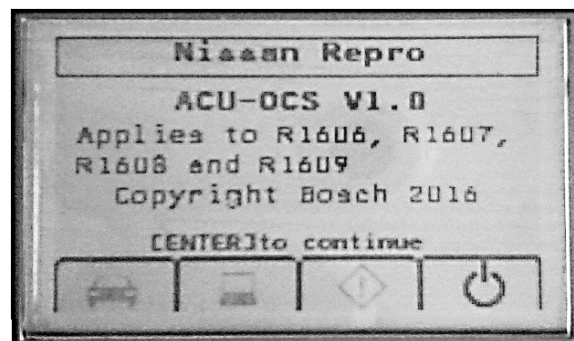

Figure A2
- When boot-up is complete and the Start Screen (see Figure A2) is displayed, the BOSCH MTS 6513 is ready for reprogramming.
- If the screen in Figure A2 does not display, the correct software has not been loaded into the BOSCH MTS 6513.